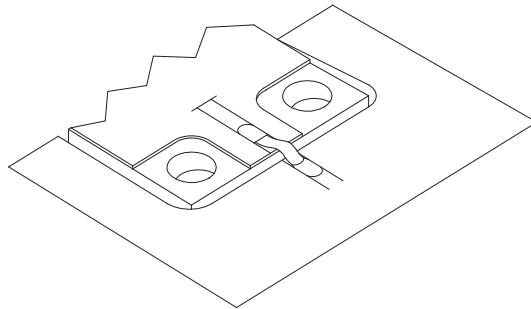

Figure 2.
1. To facilitate integration, the traces on the microstrip mixers are soldering reflowed with SN63 solder. When interfacing to a printed circuit board with a solderable trace, the simplest and most cost effective interface is made with a tin plated copper ribbon (Figure 2). The ribbon is first soldered to the interfacing trace, a small stress relief is formed, and the other end of the ribbon is soldered to the mixer trace. An exaggerated stress relief can cause performance degradation. The ribbon should be .010 inches (.254 mm) wide for an optimum interface.